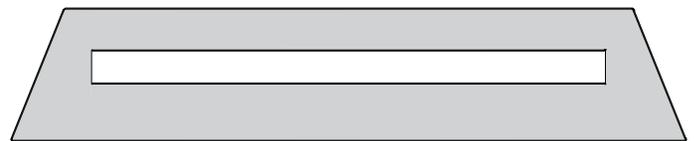

Figure 5
- Place the crushed glass to the shaded area only. **See Figure 5.** Use enough to cover the floor of the fireplace, but do not allow the media to reach higher than the flange surrounding the burner. Never place decorative media inside the flange surrounding the burner itself.